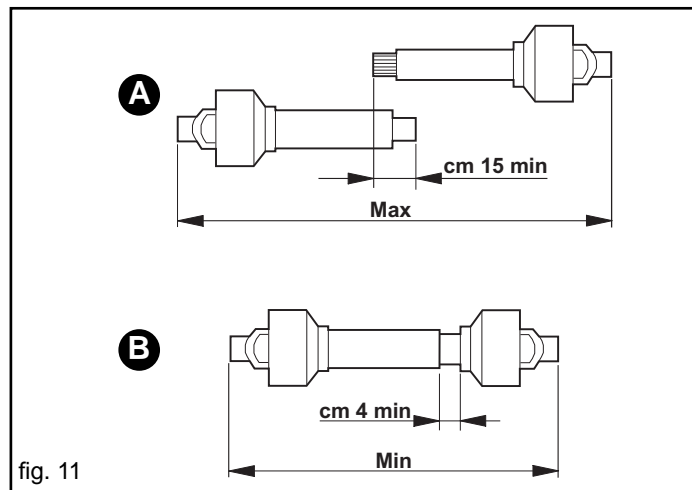

fig. 11
- When the Cardan shaft is with drawn to the end of its stroke, the two pipes should overlap by at least 15 cm (A Fig. 11). When it is inserted all the way, the minimum admissible play is 4 cm (B Fig. 11).